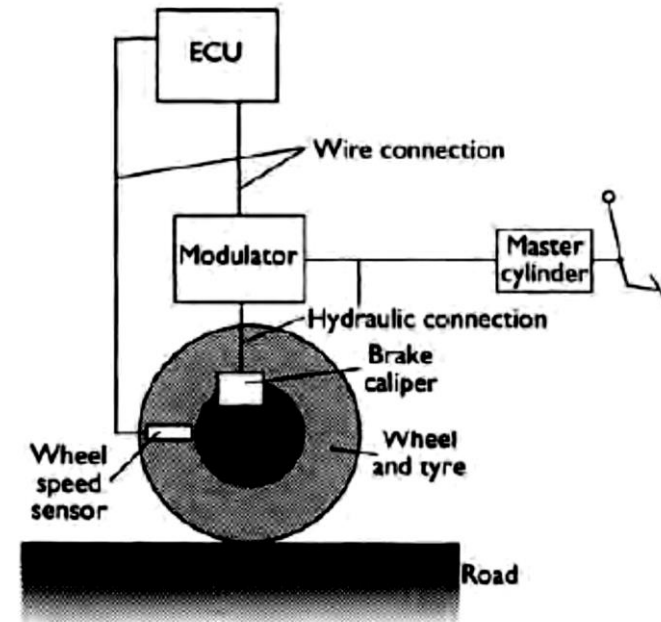

Figure 15.2 Anti-lock brake system
- An ABS system is represented by the closed loop system block diagram shown in Figure 15.2. The most important of the inputs are the wheel speed sensors, and the main output is some form of brake system pressure control.